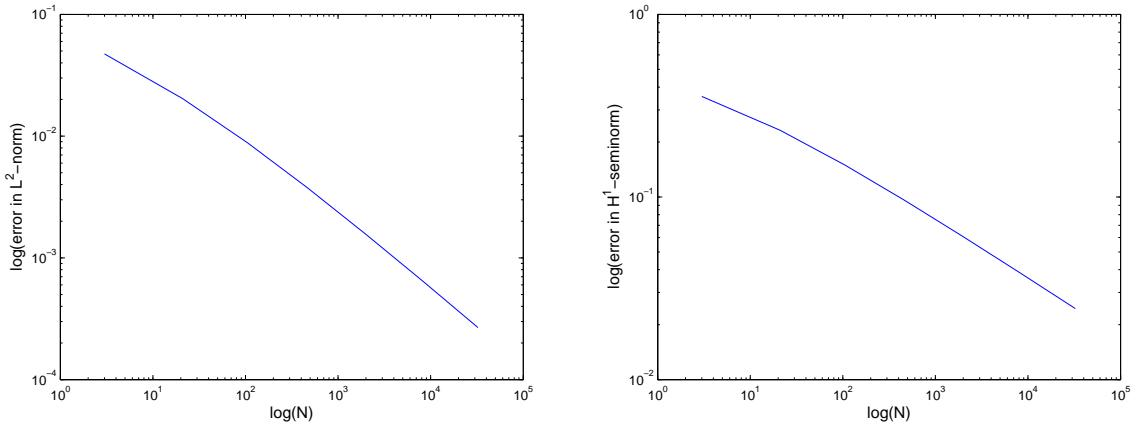

Figure 3.5: Convergence plots for subproblem (3.1r).
**Solution:** See Fig.3.5 for the convergence plots. The convergence rates with respect to the number of degrees of freedom are 0.5628 for the  $L^2$ -norm and 0.2919 for the  $H^1$ -seminorm, corresponding to rates of around 1 and 0.6 respectively with respect to the meshsize  $h$ . The reason for these lower rates is that the gradient of the solution has a singularity at the origin.